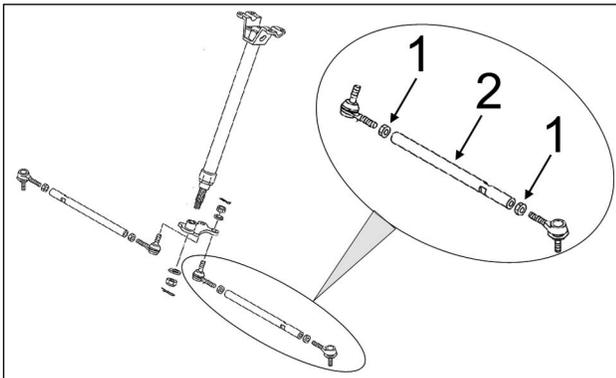
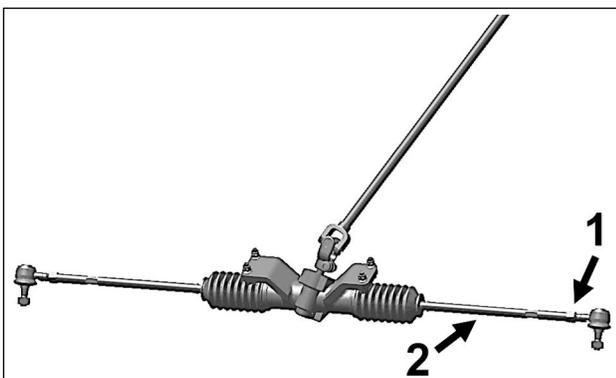

Figure 19
Figure 20
To adjust the vehicle's steering system, first loosen coupling rod nuts (1), then screw or unscrew the coupling rod (2) an equal number of revolutions on both sides of the vehicle. Retighten nuts when adjustment is complete. See Figure 19 or Figure 20.
**CAUTION:** Before loosening coupling rod nuts (1) on the vehicle's steering system, remember that some nuts have reverse threads. Make sure to unlock the nut in the proper rotational direction.